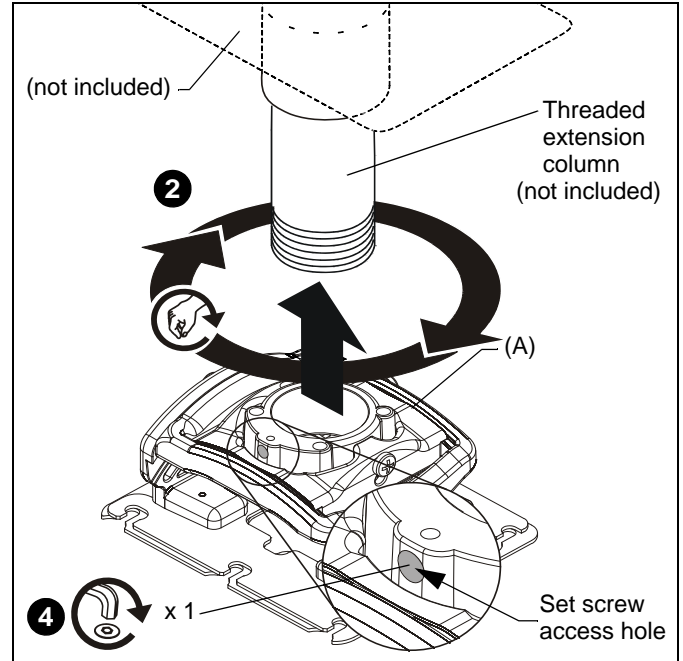
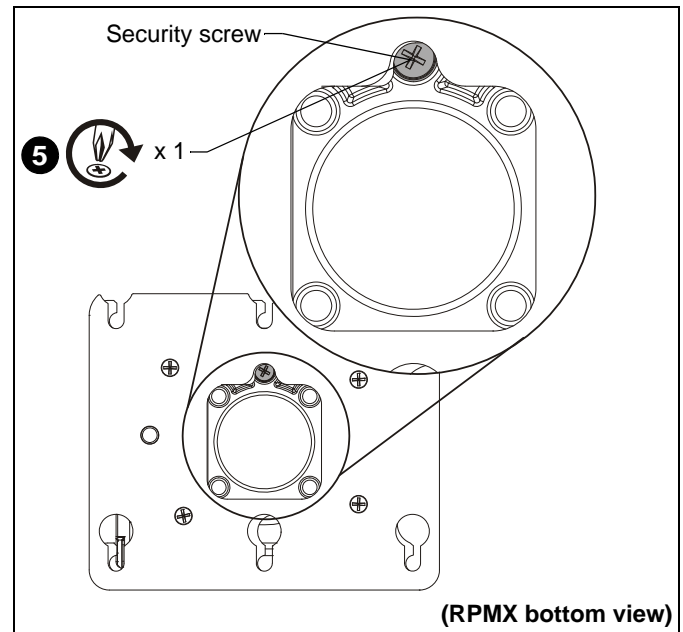

Figure 1
Figure 2
4. Secure RPMX to pipe by turning set screw with a 5/32" hex key until tight. (See Figure 1)
5. Turn security screw (access from bottom of RPMX) (See Figure 2) using a Phillips screwdriver until set screw cannot be seen through set screw access hole in RPMX. (See Figure 1)